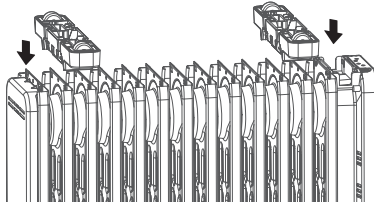

Figure 1
- 2 As shown in Figure 1, align the mounting buckles of a set of foot components. The hole of the heat sink, press in the direction of the arrow, the buckle on the foot. Just drop into the hole of the heat sink.